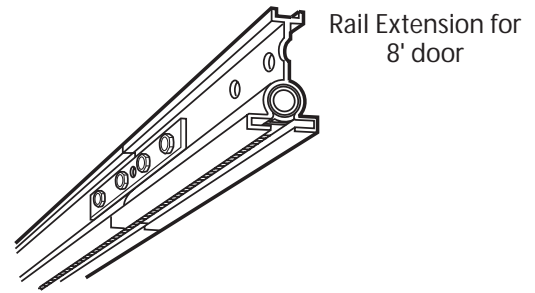

Figure 3 Rail Extension Kit
- B** If door height is 8'-0", you need a Rail Extension Kit. (**Figure 3**) (See Accessories Order Form, page 21).